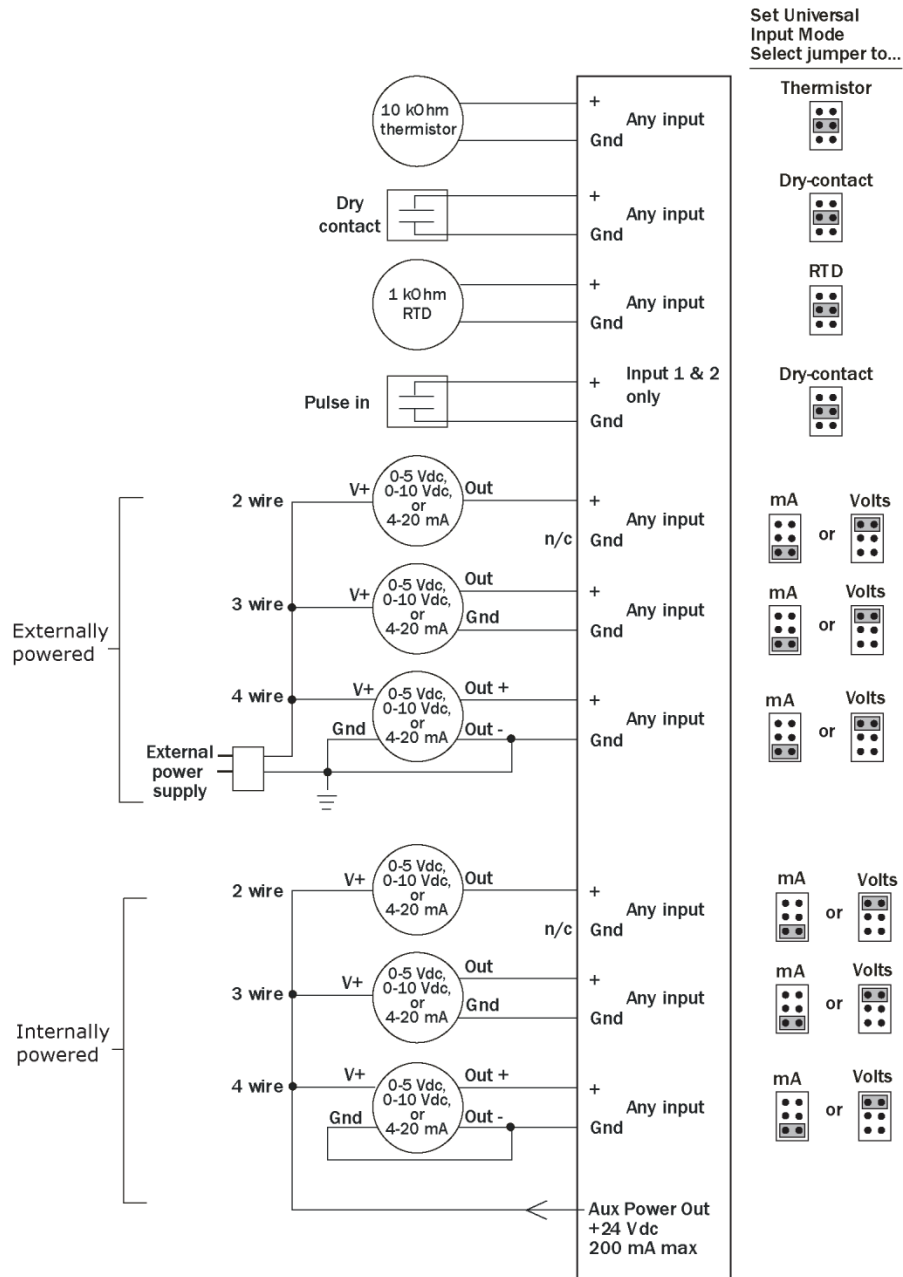

Fig. 2 — UC Open XP Typical Wiring
2. Connect the input wiring to the screw terminals on the UC Open XP controller. See Fig. 2 for image of the UC Open XP typical wiring.